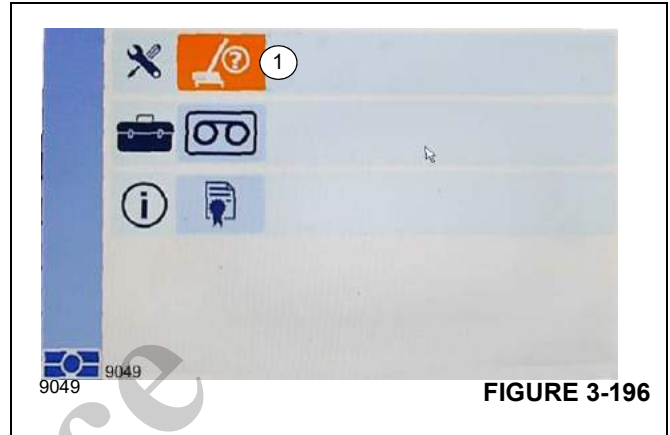

FIGURE 3-196
This menu opens when the Rigging information is entered and confirmed. To open: Select symbol (1), (Figure 3-196) and confirm